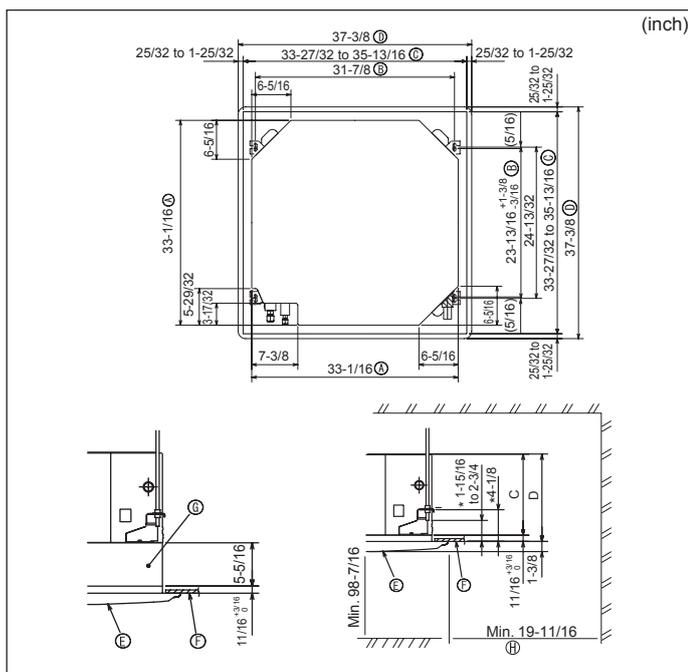

Fig. 3-2
④	Band	8
⑤	Screw with washer (M5 × 25) for mounting grille	4
⑥	Drain socket	1
⑦	Insulation	1
3.2. Ceiling openings and suspension bolt installation locations (Fig. 3-2)
- * The dimensions of ceiling opening can be regulated within the range shown in Fig.3-2; so center the main unit against the opening of ceiling, ensuring that the respective opposite sides on all sides of the clearance between them becomes identical.